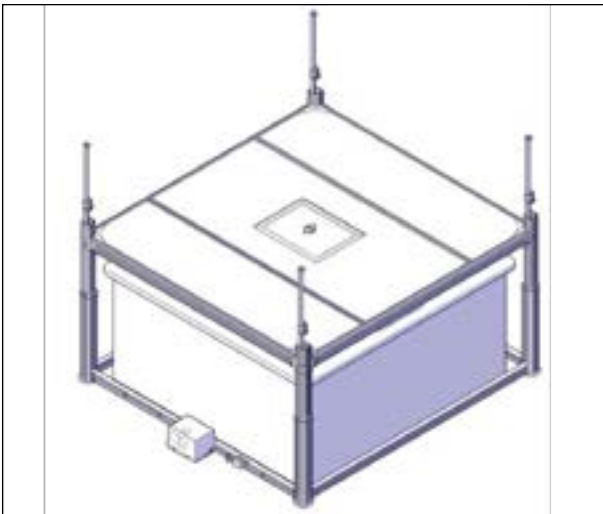

FIGURE 91: JACKS RAISING
7. Raise the jacks until they reach the maximum height see Figure 91.